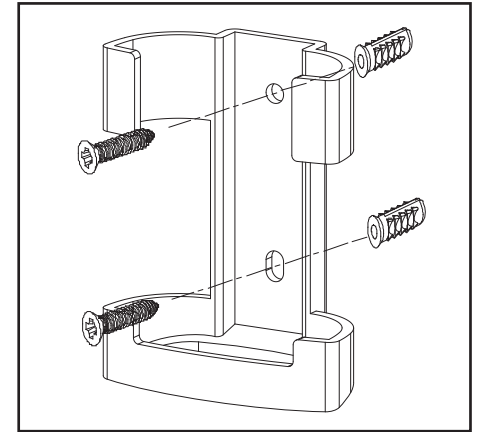

Figure 20
1. Position the wall cradle in the desired position and attach it to the wall using the included wall cradle screws. (Figure 20)